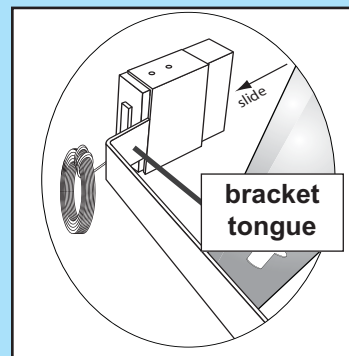

FIG. 4-3 Attach sensors to brackets.
- Slide source/sensor onto tongue of bracket until it clicks into place. (Fig. 4-3).